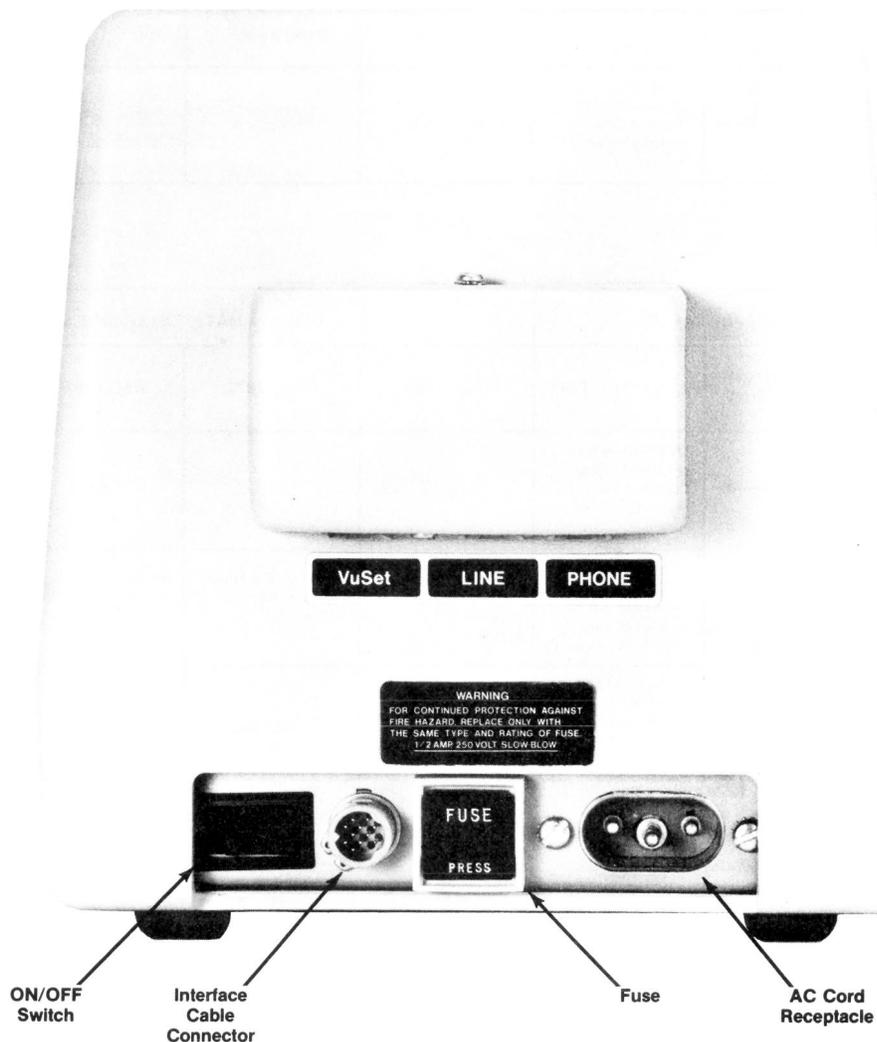

Figure 14, Interface Connections to VuSet Terminal
- Connect interface cable to receptacle at rear of terminal, see Figure 14. Note that the cable connector is of the push-on, pull-off type and should **not** be turned or twisted to attach or remove.